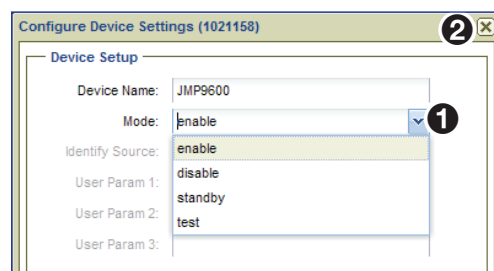

Figure 140. Configure Device Settings Dialog Box
The **Configure Device Settings** dialog box opens (see figure 140).
5. Select **enable** from the **Mode** drop-down list (see figure 140, ❶). Click the **X** in the upper right corner of the dialog box (❷) to close the **Configure Device Settings** dialog box.